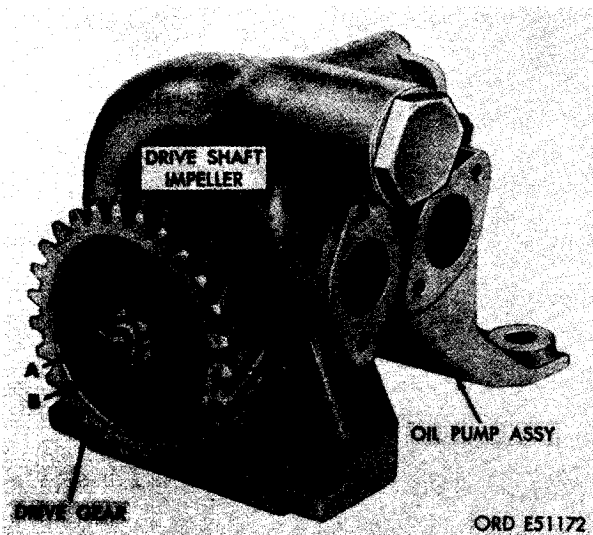

FIGURE 359. REMOVING OR INSTALLING SLOTTED NUT SECURING OIL PUMP DRIVE GEAR.
- (1) Figure 359. (A) Remove 3/32 x 1-1/8 cotter pin. (B) Remove 1/2-inch slotted nut securing oil pump drive gear to drive shaft impeller.